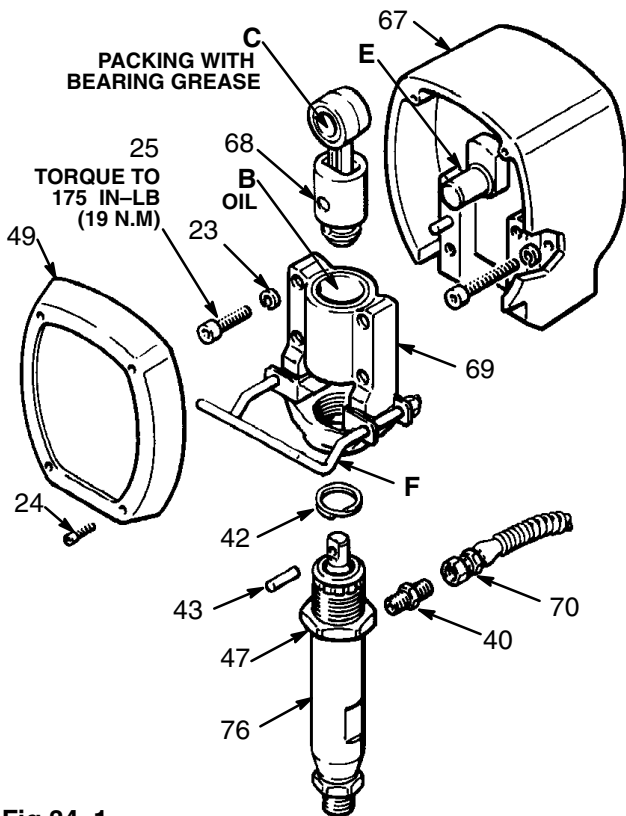

Fig 34-1
13. Install the front cover (49). Connect the suction tube (86) and short hose (70) to the pump. See Fig 34-1.